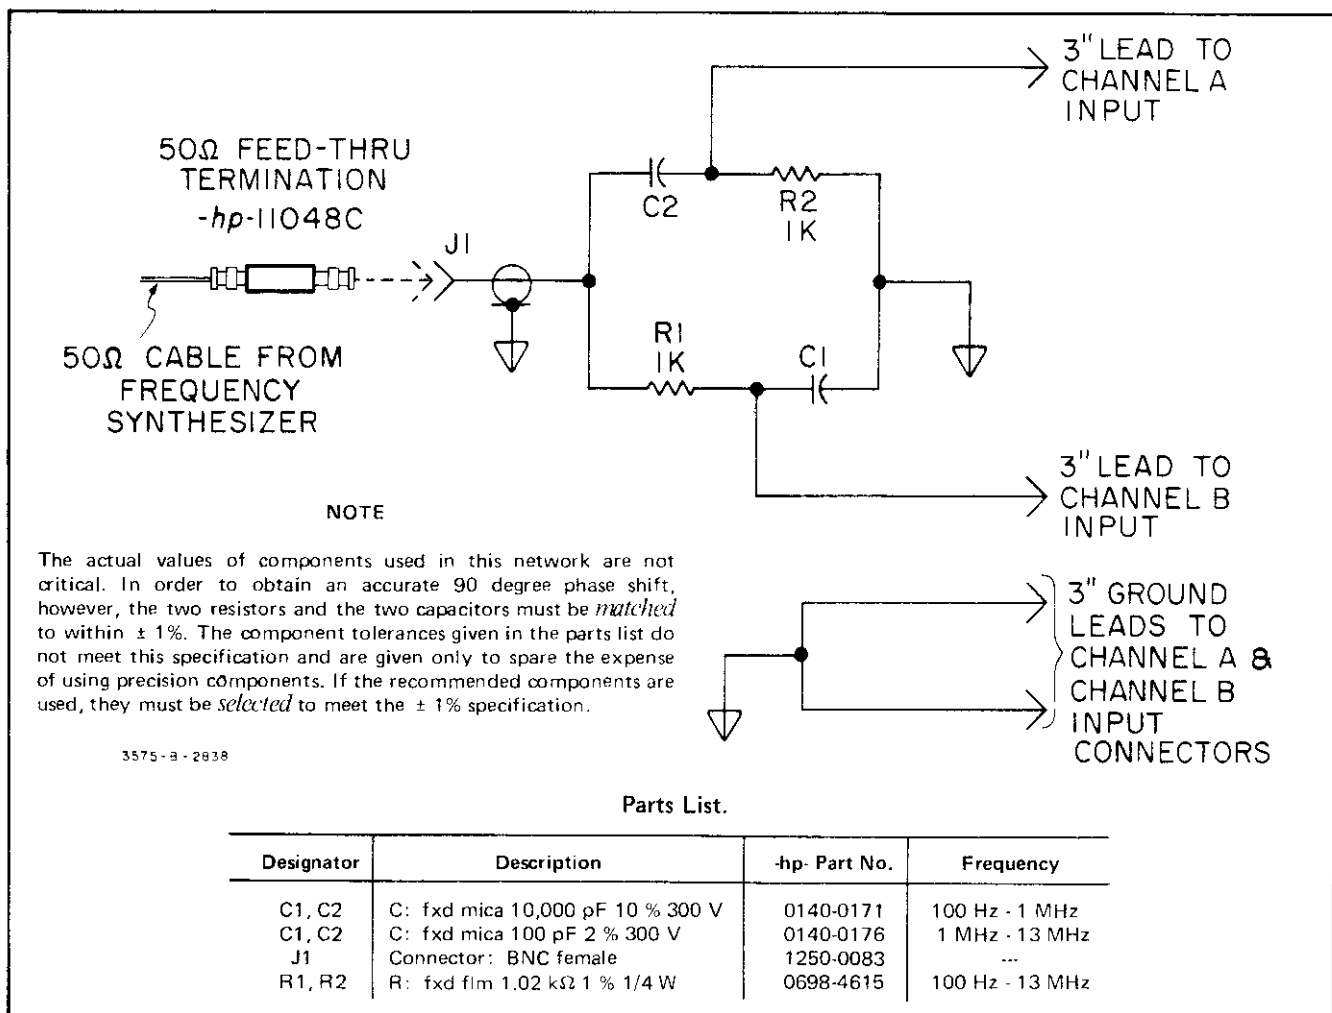

Figure 5-4. R/C Phase Shift Network.
5-18. The purpose of this check is to supplement the phase accuracy checks outlined in Paragraph 5-12. This check is included for the benefit of those who do not have a precision phase generator and desire to further verify the 3575A phase accuracy at 90 degrees. The test equipment required for this procedure includes a simple R/C phase shift network such as the one shown in Figure 5-4. The circuit shown in Figure 5-4 will produce an accurate 90 degree phase shift over the frequency range of 100 Hz to 13 MHz.
- (2) BNC to Binding Post Adapters (-hp- 10110A)
- R/C Phase Shift Network (See Figure 5-4)
- a. Construct an R/C network as shown in Figure 5-4.
- c. Connect the output leads of the R/C network to the 3575A inputs as shown in Figure 5-4. The leads from the R/C network to the 3575A should be of equal length and as short as possible.